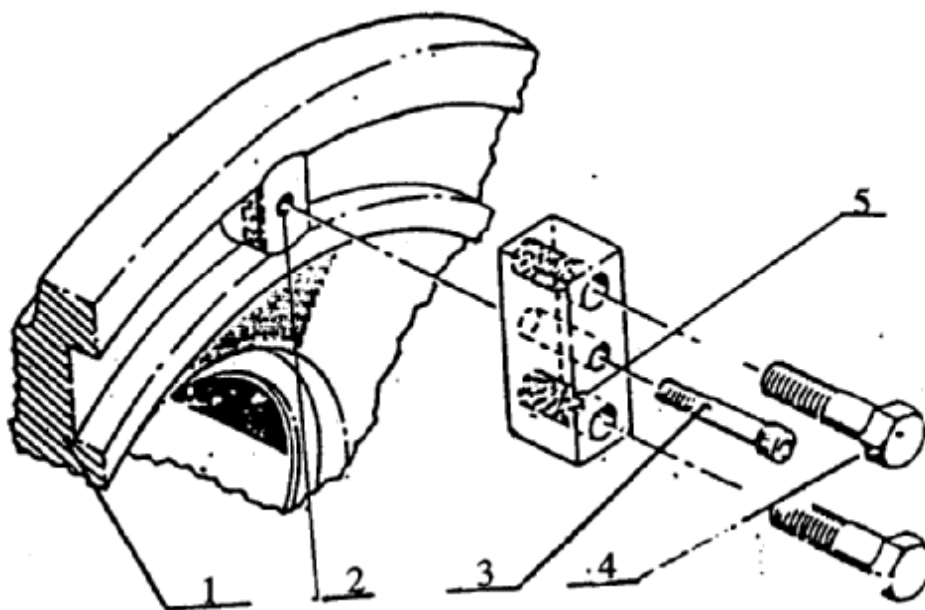

Figure 18 DISASSEMBLING AND ASSEMBLING OF DRIVING KEY
the used and damaged key must be replace. Remove the used key with a key puller and assemble a new key. (see Figure 18)
- c. As shown in Figure 18, set the puller, twist off two disassembling screw 4 and pull the die driving key out. If the threads of disassembling screw reach the bottom of key puller and the key does not come out yet, back off the disassembling screw and install a partition plate between key puller and quill flange face. Again twist off two disassembling screws to pull the